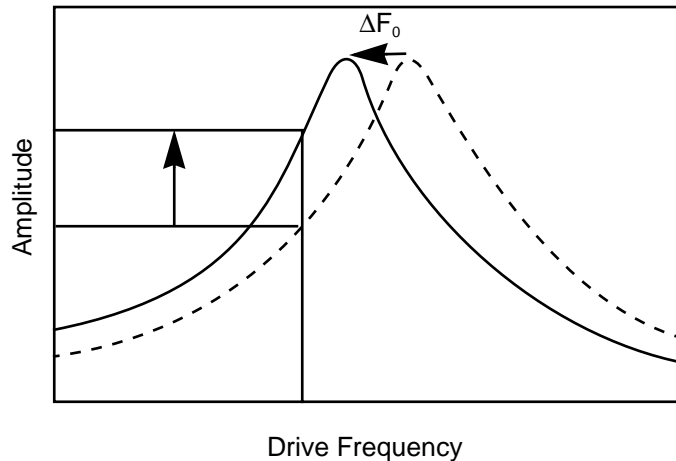

Figure 14.20. Shift in amplitude at fixed *Drive Frequency* (Extender Electronics Module not installed).
- Set the **Drive frequency** to the left side of the cantilever resonance curve, as shown in Figure 14.20 below.